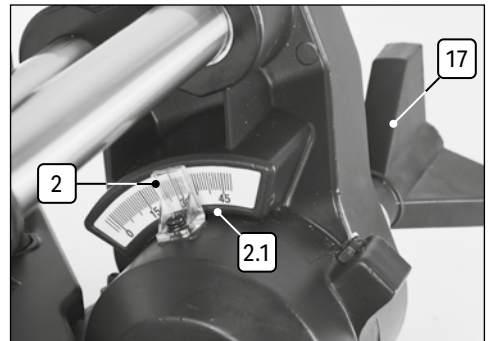

Fig. 11
6.11 Bevel Adjustment – Fig.11